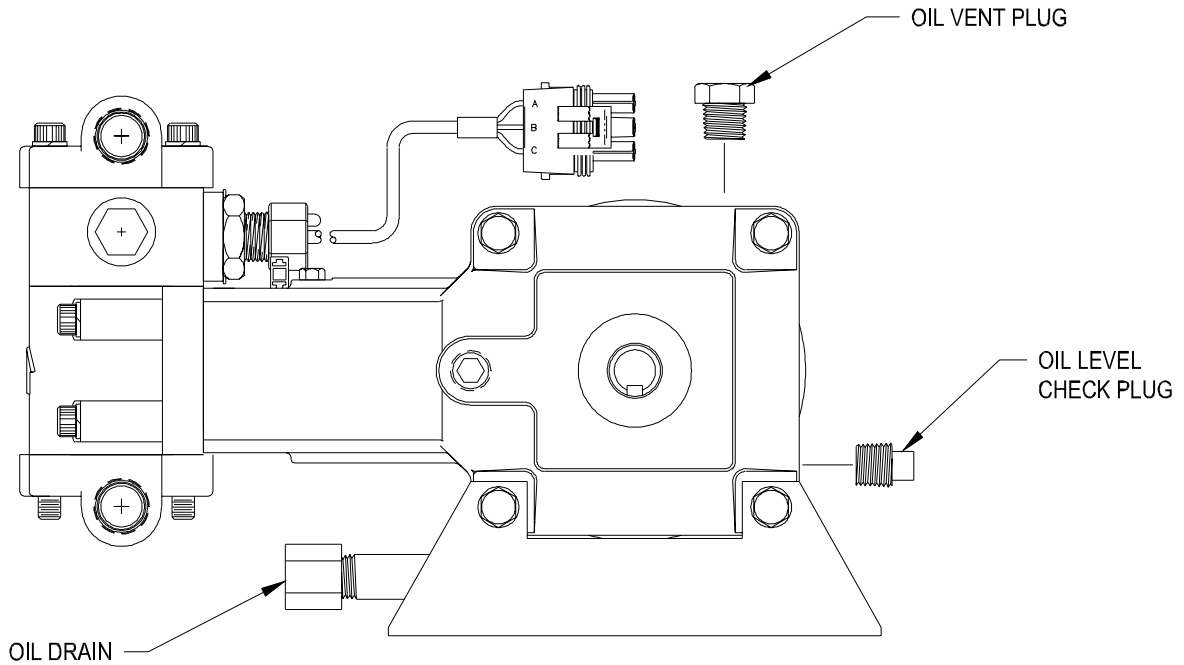

FIGURE 8
- 5) Remove and inspect face and body seal sleeve o-ring (Item 4, Figure 8). Replace if necessary.